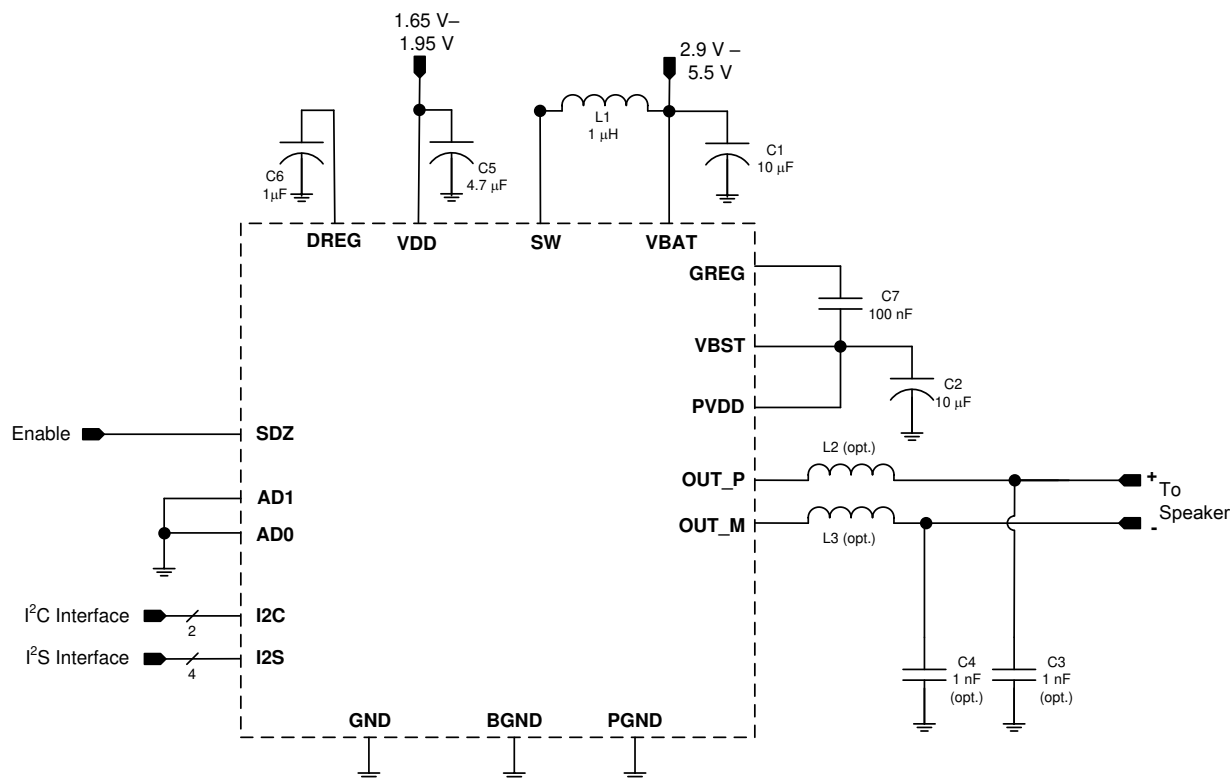

图 50. Typical Application - Digital Audio Input
The boost converter requires three passive devices that are labeled L1, C1 and C2 in 图 50 and whose specifications are provided in 表 272. These specifications are based on the design of the TAS2110 and are necessary to meet the performance targets of the device. In particular, L1 should not be allowed to enter in the current saturation region. The saturation current for L1 should be $> I_{LIM}$ to deliver Class-D peak power.
The system designer may want to include passive devices on the Class-D output. These passive devices that are labeled L2, L3, C3 and C4 in 图 50 and their recommended specifications are provided in 表 272. If C3 and C4 are used, L2 and L3 must also be installed, and C3 and C4 must be placed after L2 and L3 respectively to maintain the stability of the output stage.
The boost supply (VBAT) and associated passives need to be able to support the current requirements of the device. By default, the peak current limit of the boost is set to 4 A. Refer to 表 86 for information on changing the current limit. A minimum of a 10 μ F capacitor is recommended on the boost supply to quickly support changes in required current. Refer to 图 50 for the schematic.
- Use supply decoupling capacitors as shown in 图 50 and described in Power Supplies.